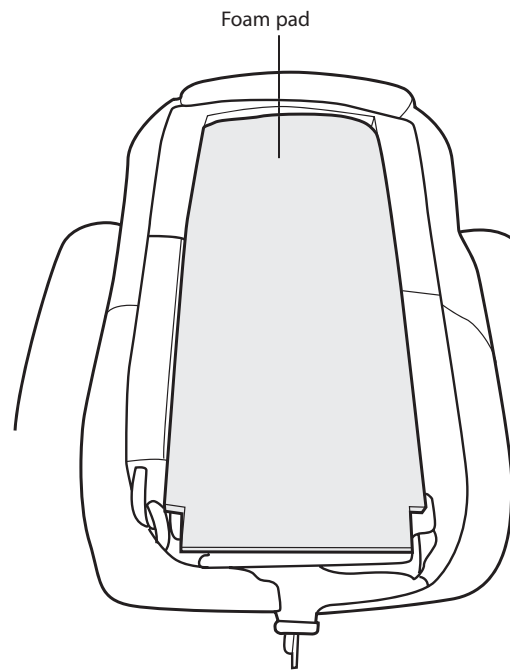

Fig.12
10. Place the foam pad on top of the massage mechanism (Fig.12).